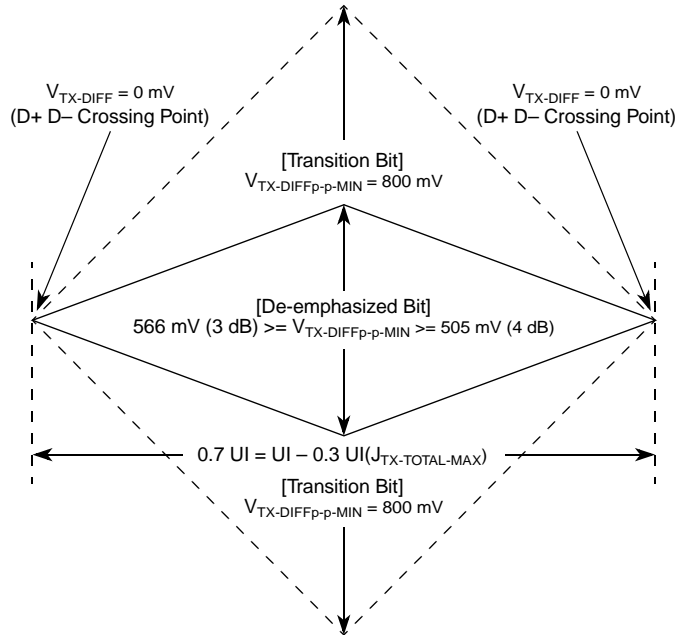
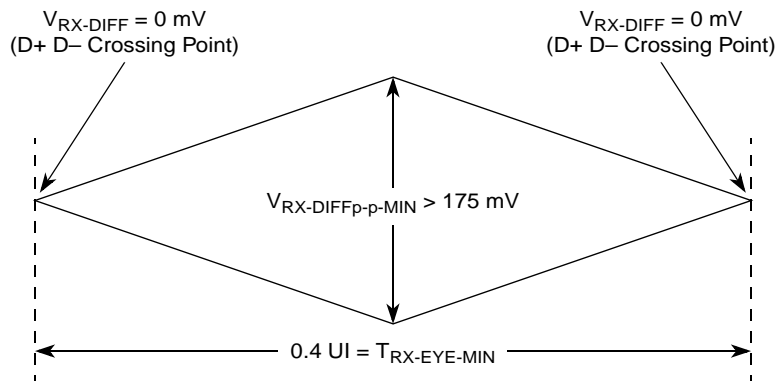
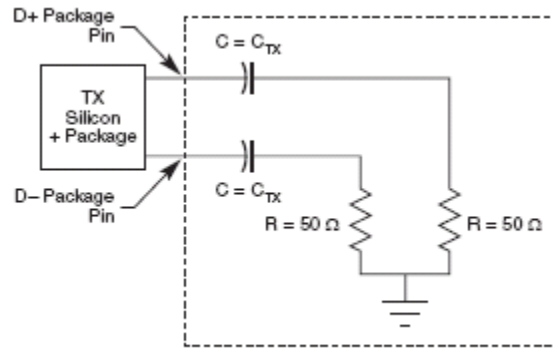

Figure 50. Minimum Transmitter Timing and Voltage Output Compliance Specifications
Figure 51. Minimum Receiver Eye Timing and Voltage Compliance Specification
Figure 52. Compliance Test/Measurement Load
2. Specified at the measurement point into a timing and voltage compliance test load as shown in Figure 52 and measured over any 250 consecutive TX UIs. (Also refer to the transmitter compliance eye diagram shown in Figure 50.)
4. The transmitter input impedance shall result in a differential return loss greater than or equal to 12 dB and a common mode return loss greater than or equal to 6 dB over a frequency range of 50 MHz to 1.25 GHz. This input impedance requirement applies to all valid input levels. The reference impedance for return loss measurements is 50 Ω to ground for both the D+ and D- line (that is, as measured by a vector network analyzer with 50- Ω probes, see Figure 52). Note that the series capacitors, C_{TX} , is optional for the return loss measurement.
5. Measured between 20%–80% at transmitter package pins into a test load as shown in Figure 52 for both V_{TX-D+} and V_{TX-D-} .
The TX eye diagram in Figure 50 is specified using the passive compliance/test measurement load (see Figure 52) in place of any real PCI Express interconnect + RX component. There are two eye diagrams that must be met for the transmitter. Both diagrams must be aligned in time using the jitter median to locate the center of the eye diagram. The different eye diagrams differ in voltage depending on whether it is a transition bit or a de-emphasized bit. The exact reduced voltage level of the de-emphasized bit is always relative to the transition bit.
2. Specified at the measurement point and measured over any 250 consecutive UIs. The test load in Figure 52 should be used as the RX device when taking measurements (also refer to the receiver compliance eye diagram shown in Figure 51). If the clocks to the RX and TX are not derived from the same reference clock, the TX UI recovered from 3500 consecutive UI must be used as a reference for the eye diagram.
4. The receiver input impedance shall result in a differential return loss greater than or equal to 15 dB with the D+ line biased to 300 mV and the D- line biased to -300 mV and a common mode return loss greater than or equal to 6 dB (no bias required) over a frequency range of 50 MHz to 1.25 GHz. This input impedance requirement applies to all valid input levels. The reference impedance for return loss measurements for is 50Ω to ground for both the D+ and D- line (that is, as measured by a vector network analyzer with $50-\Omega$ probes, see Figure 52). Note that the series capacitors, C_{TX} , is optional for the return loss measurement.
The RX eye diagram in Figure 51 is specified using the passive compliance/test measurement load (see Figure 52) in place of any real PCI Express RX component. In general, the minimum receiver eye diagram measured with the compliance/test measurement load (see Figure 52) is larger than the minimum receiver eye diagram measured over a range of systems at the input receiver of any real PCI Express component. The degraded eye diagram at the input Receiver is due to traces internal to the package as well as silicon parasitic characteristics which cause the real PCI Express component to vary in impedance from the compliance/test measurement load. The input receiver eye diagram is implementation specific and is not specified. RX component designer should provide additional margin to adequately compensate for the degraded minimum Receiver eye diagram (shown in Figure 51) expected at the input receiver based on an adequate combination of system simulations and the return loss measured looking into the RX package and silicon. The RX eye diagram must be aligned in time using the jitter median to locate the center of the eye diagram.
The reference impedance for return loss measurements is $50\ \Omega$ to ground for both the D+ and D- line (that is, as measured by a Vector Network Analyzer with $50\ \Omega$ probes—see Figure 52). Note that the series capacitors, $C_{PEACCTX}$, are optional for the return loss measurement.
The AC timing and voltage parameters must be verified at the measurement point, as specified within 0.2 inches of the package pins, into a test/measurement load shown in Figure 52.